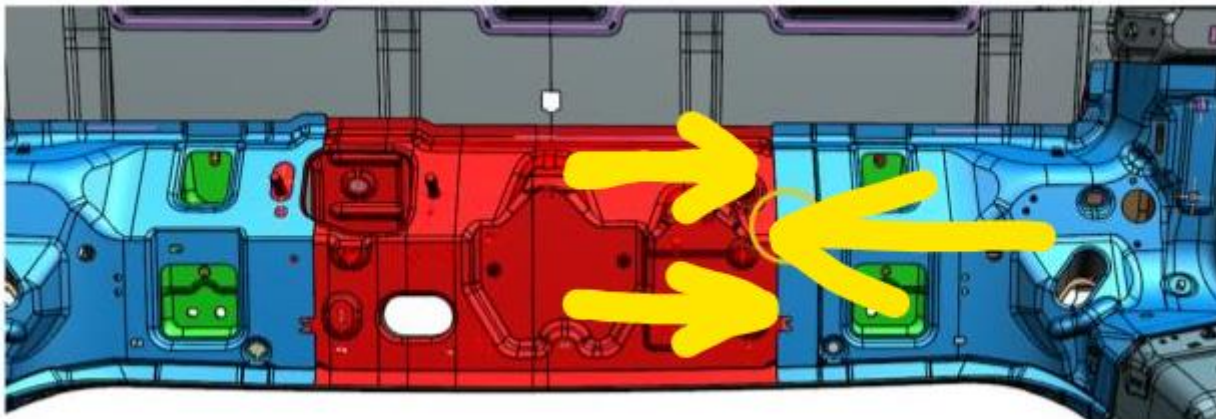

Figure 2.
4. Apply the Loctite 290 into the joint shown in Fig 2 below. Follow the application and cure instructions on the product. Because the application area is over head it may be of help to obtain an industrial material syringe also known as a hobby syringe (use internet web search to locate).